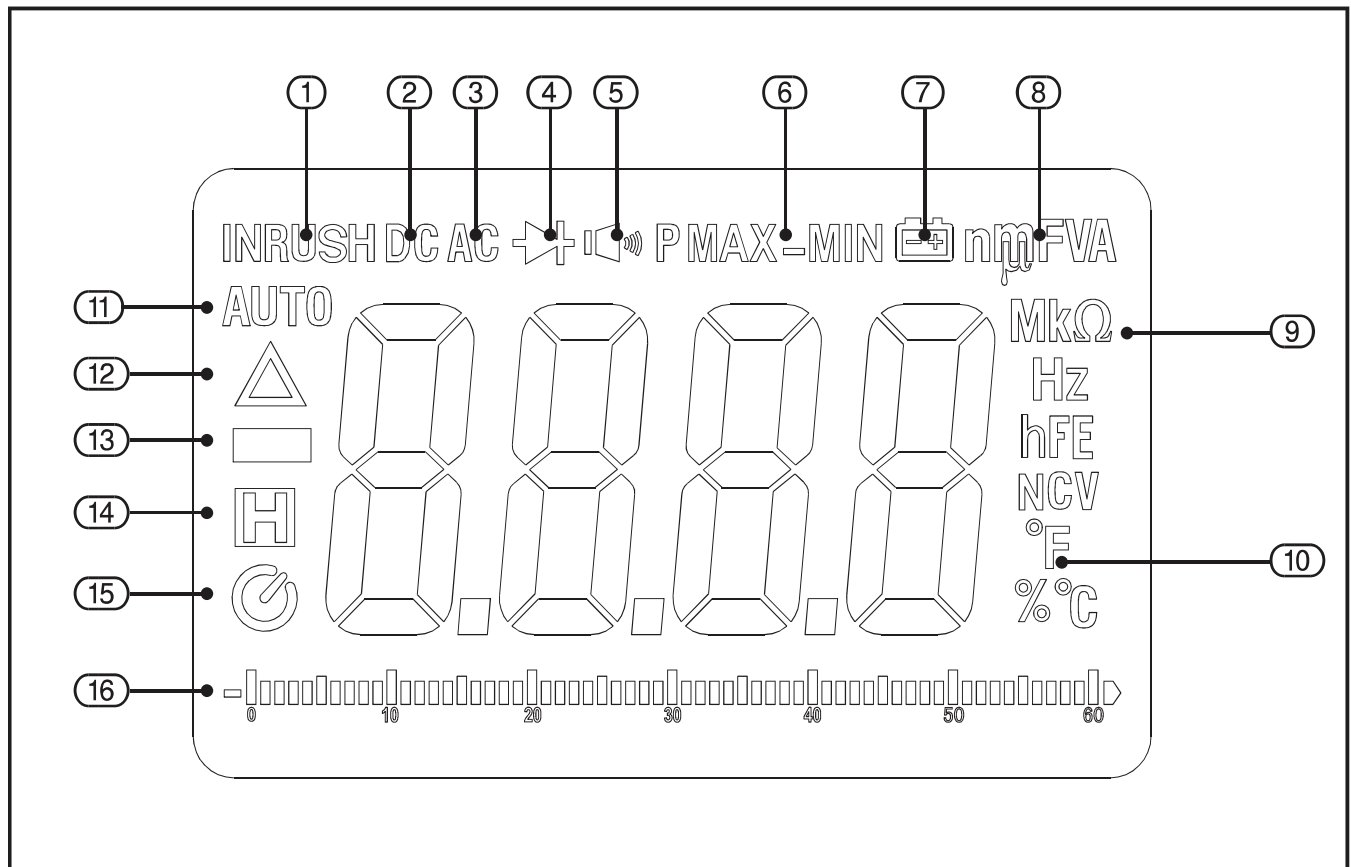

FIG.1
5.1 LCD (Liquid-crystal display) - FIG. 1